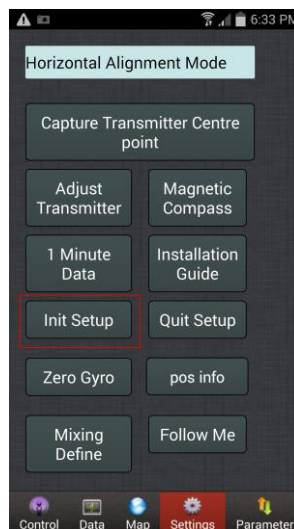
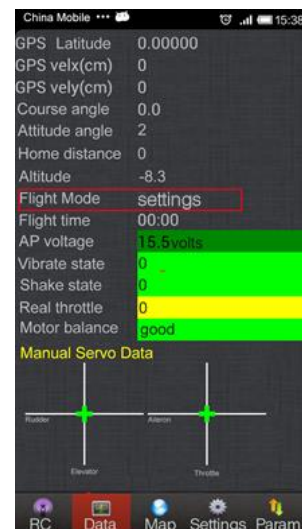

Figure 22
Figure 23
2. Click "Init Setup" in "Setting" page, as shown in Figure 22. Click "Confirm" button in the dialog box. Now the "Flight Mode" should be displaying as "Settings" in the Data screen of the GCS, as shown in Figure 23.